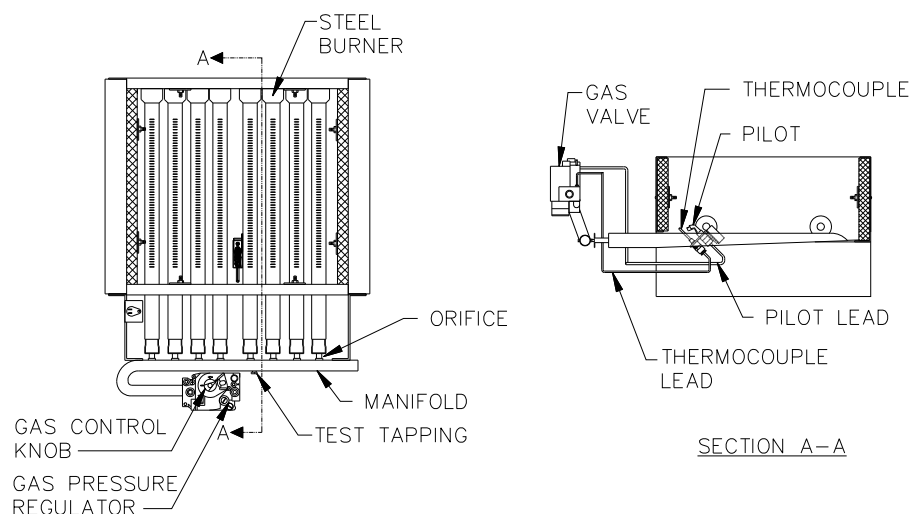

Figure 7.1: Gas Valve, Manifold and Burner Assembly – Standing Pilot (Continuous Ignition)
13. The gas manifold and control assembly are made of gas-tight, completely factory assembled and installed components of the base assembly. See Figure 7.1 and 7.2.